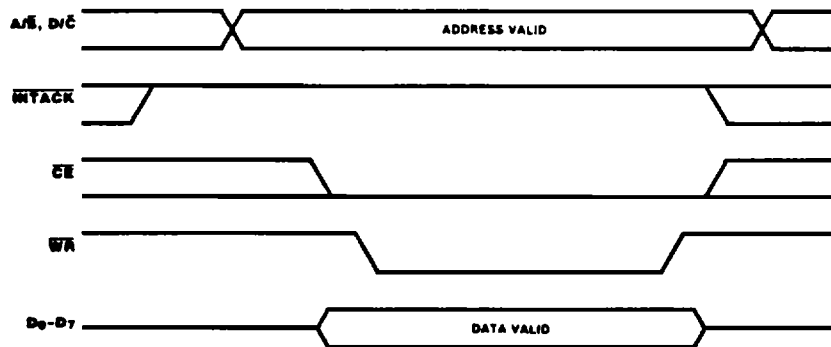

Figure 13. Write Cycle Timing
**Write Cycle Timing.** Figure 13 illustrates Write cycle timing. Addresses on A/ $\overline{B}$  and D/ $\overline{C}$  and the status on  $\overline{INTACK}$  must remain stable throughout the cycle. If